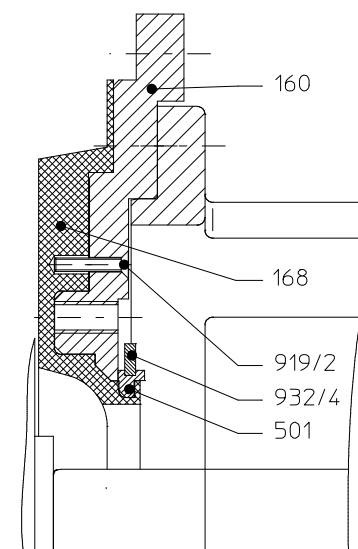

Fig. 5
- ◆ For the sizes of group 3 the RG-4 back plate **161** can be replaced and is vacuum-proof. See **Fig. 5**.